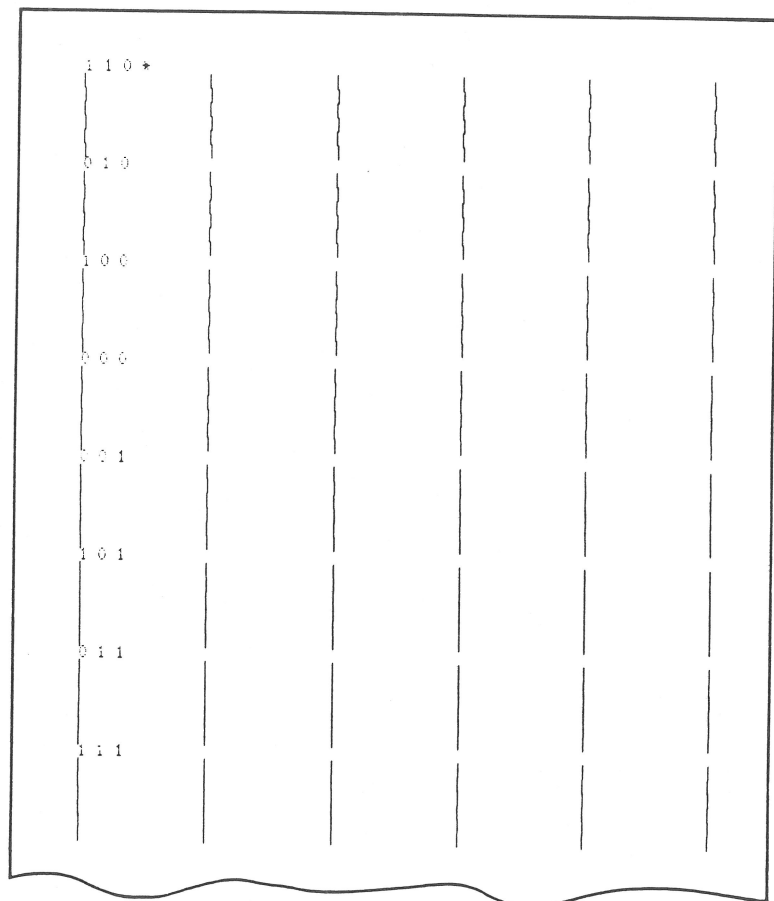

FIGURE 26
4. Using Tables 1 and 2, and Figure 26, set DIP switches 3-6, 3-7, and 3-8 according to the best registration selected on the printout. (1 = On; 0 = Off.)